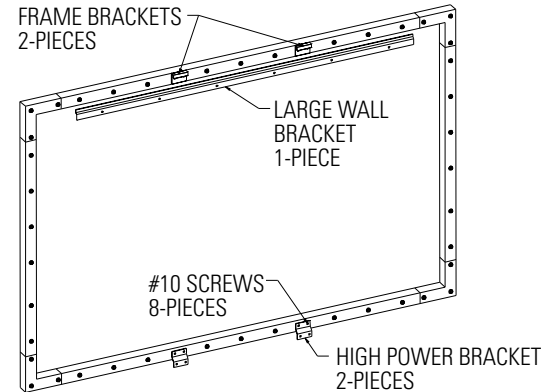

**FIGURE 8**
1. Use the supplied #10 screws to attach six frame brackets to the back of the frame as shown in Figure 8.
4. For 150", 180", 200", 220" and larger screens with 2-piece side frame rails you will need to attach one High Power bracket to each side frame rail. Use the black #10 screws supplied. See Figure 8.